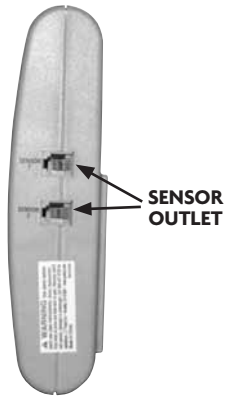

Fig. 32
7. Insert RJ11 plug into the jack labeled "sensor" on right side of alarm (fig. 32).